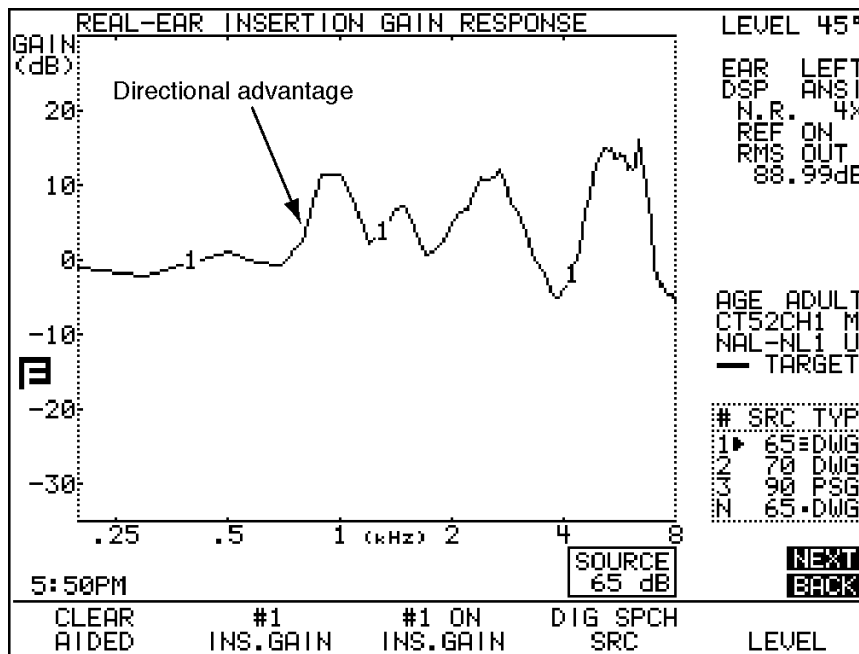

Figure 5.4.4C—Amount of amplification advantage provided by the directional microphones
15. Press [NEXT] to enter the Insertion Gain screen. The displayed measurement curve is the difference between the "forward" and the "reverse" measurements, or the amplification advantage provided by the directional microphones of the hearing aid. See Figure 5.4.4C.